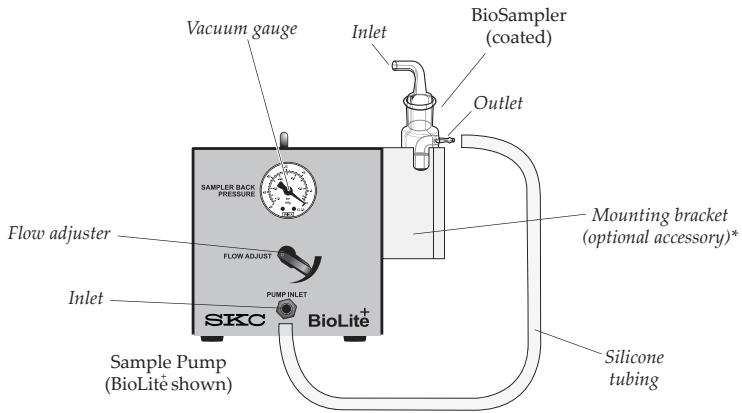

Figure 4. Sampling Train with Coated Collection Vessel
- b. **If using a coated collection vessel (Figure 4)**, connect the BioSampler outlet (nozzle section) to the sample pump inlet using 3/8-inch ID silicone tubing.